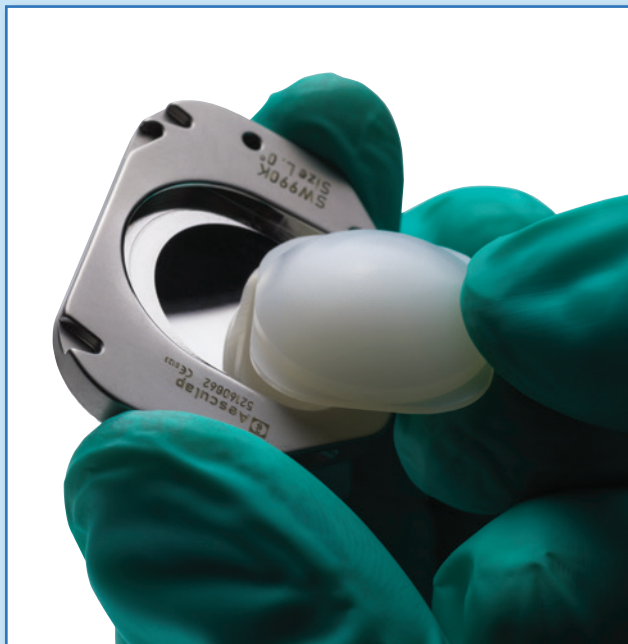

Fig. 20 – activL Implant Assembly
- The inserter will come through the sterile processing department (SPD) fully disassembled as pictured in Figure 20)